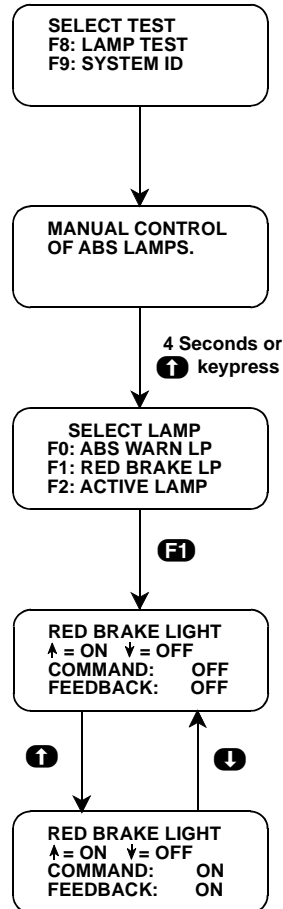

FIGURE 5-11. Lamp Test Example
5. A Select Lamp menu is displayed. Press the key (**F0**, **F1**, **F2**) that corresponds to the Lamp you want to test. Figure 5-11 shows an example for the Red Brake Lamp.